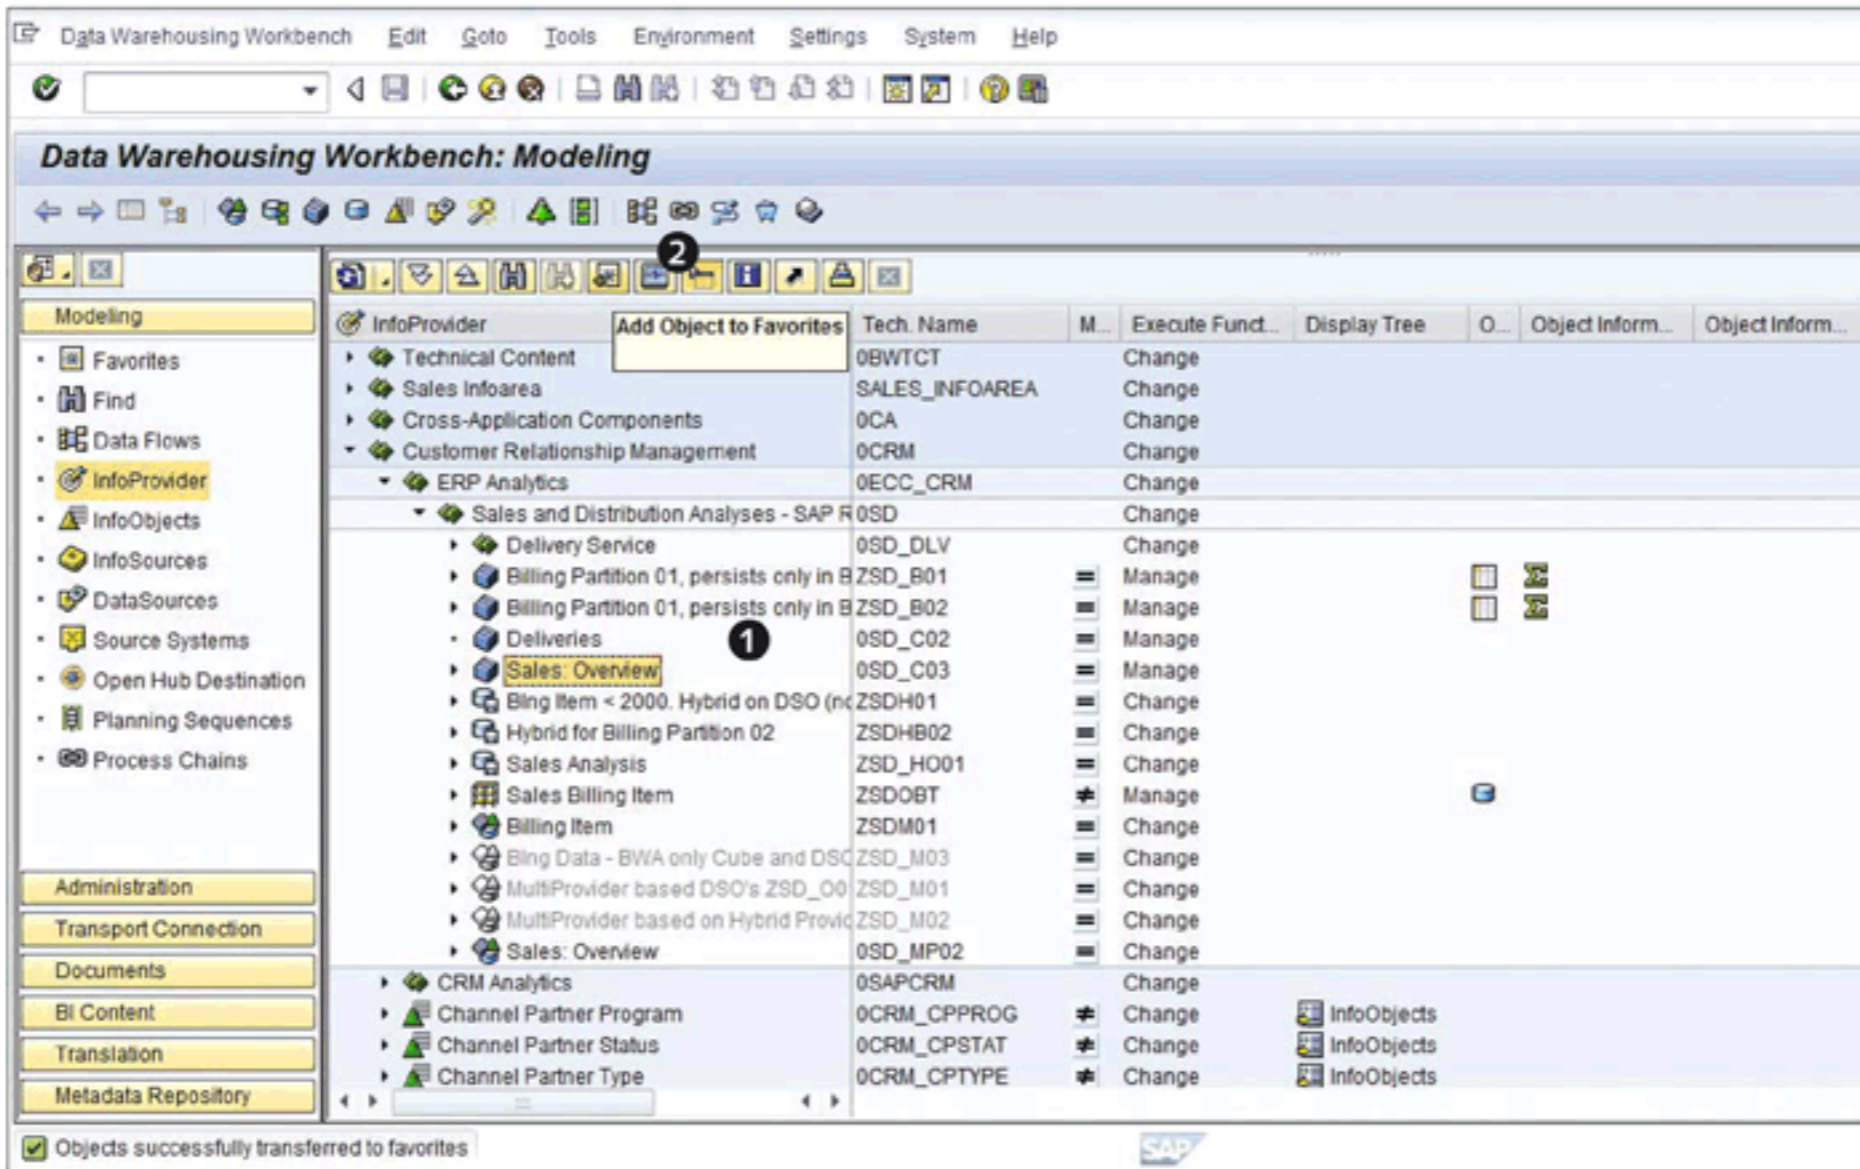

Figure 2.19 Adding an Object to Favorites
1. Select the object you want to mark as a favorite (1 of Figure 2.19).
2. Click on ADD OBJECT TO FAVORITES (2). SAP NetWeaver BW displays a message stating that the object has been added to the FAVORITES list.